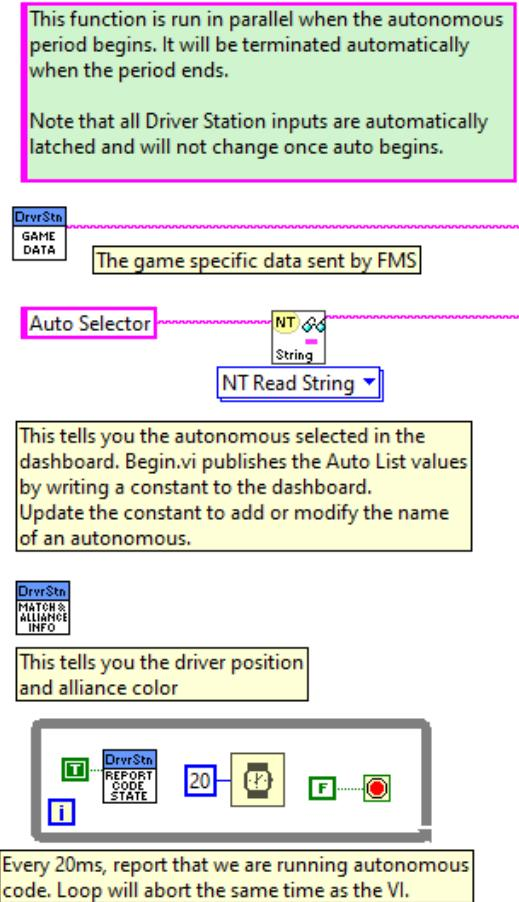
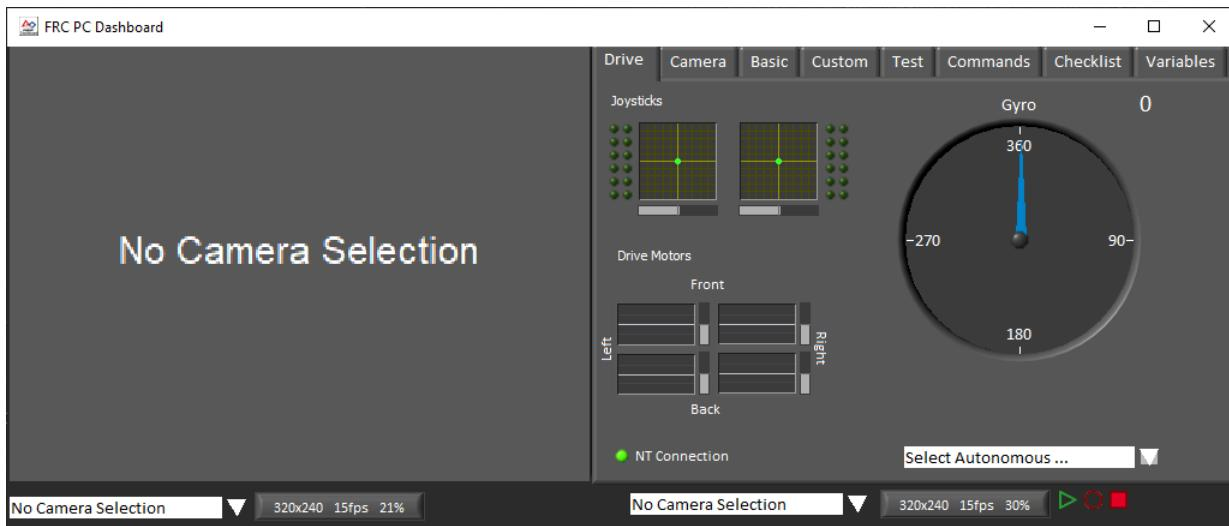
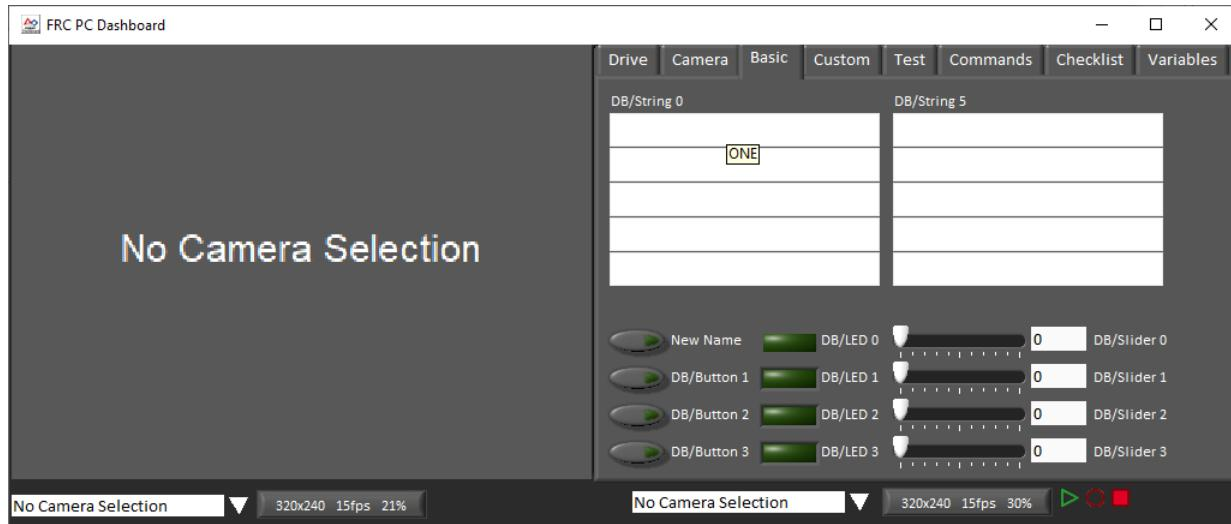
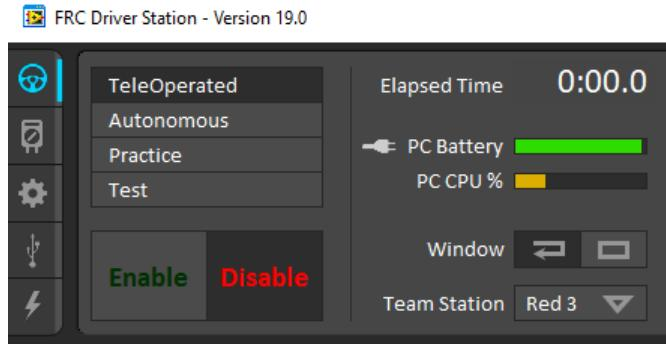

FIGURE 5.19 The “standard” bits of Autonomous Independent.vi.
FIGURE 5.20 The “Drive” tab of the standard Dashboard. The control for selecting which autonomous routine to use is near the bottom right.
FIGURE 5.21 The “Basic” tab of the default Dashboard. These controls can be used to customize your Autonomous routine.
FIGURE 5.31 The Operation tab of the Driver Station.
Fig. 5.19 shows the essential bits that come in the default Autonomous code. I say “essential”, but I should really say “constant”. From year to year, Autonomous is the code that varies the most. Sometimes you get code that gives you a big head start on developing a functioning Autonomous program for that year’s game. Other years you get just a bit of sample code that gives you an idea of things you can do, but is not really game specific. So the figure shows none of that. It only shows the VIs that communicate with the Driver Station.
Also shown in Fig. 5.19 is a VI that reads from a NetworkTables (NT) variable that can be set by the dashboard. This commonly allows selection between multiple different autonomous routines. Fig. 5.20 shows the location of this control on the default Dashboard. Other Dashboard variables can be created and set before the match starts for your Autonomous routine to read. Some of these already exist on the Basic tab as shown in Fig. 5.21. The joystick values can be read too. However, these values are latched at the start of the Autonomous period so that you can't use them as some kind of illegal joystick control. Whatever you set up before the match is what you have for the whole Autonomous period, but it does provide a way of, for example, selecting among possible behaviors without having to change the code on your robot.
Fig. 5.31 shows the Operation tab. For practicing, there are four switches that control what part of your code will run. If you select Teleoperated or Autonomous, then only the corresponding code will run. In either of these modes, the code is allowed to run for as long as it wants, or until you disable it. If you select Practice mode, then the DS will simulate a competition match, first running your Autonomous code, then your Teleop code, and then disabling your robot. (You set up the timing for this mode on the Setup tab, discussed in a bit.) If you select Test, the robot will go into Test Mode. Read Chapter 11 before doing this.
Moving over one column to the right, you can see the elapsed time indicator, PC battery graph, and PC CPU % graph. In practice mode, elapsed time will start over at zero when Teleop starts. Below the PC CPU % bar graph is a pair of buttons which control whether the DS is a floating window (as shown in Fig. 5.31) or locked down in the lower left corner of the screen (“competition mode”). Finally, at the bottom is a control that lets you tell the robot your alliance color and driver station (read out by a VI shown in Fig. 5.19).